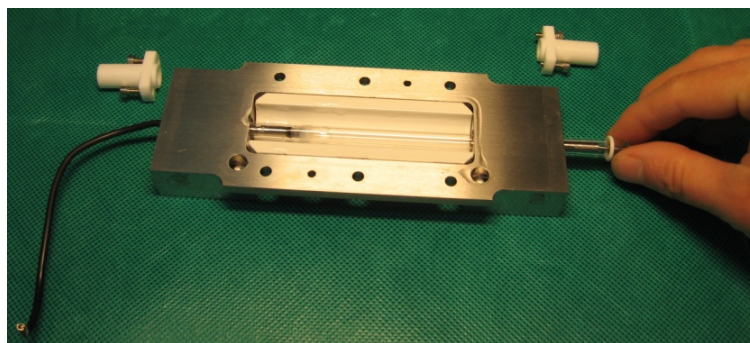

Figure 28 Pulling the lamp out
10. Carefully pull the lamp out; see Figure 28 . If necessary, gently work it to make the silicon seals release. Be careful to avoid any bending force that may break the lamp.